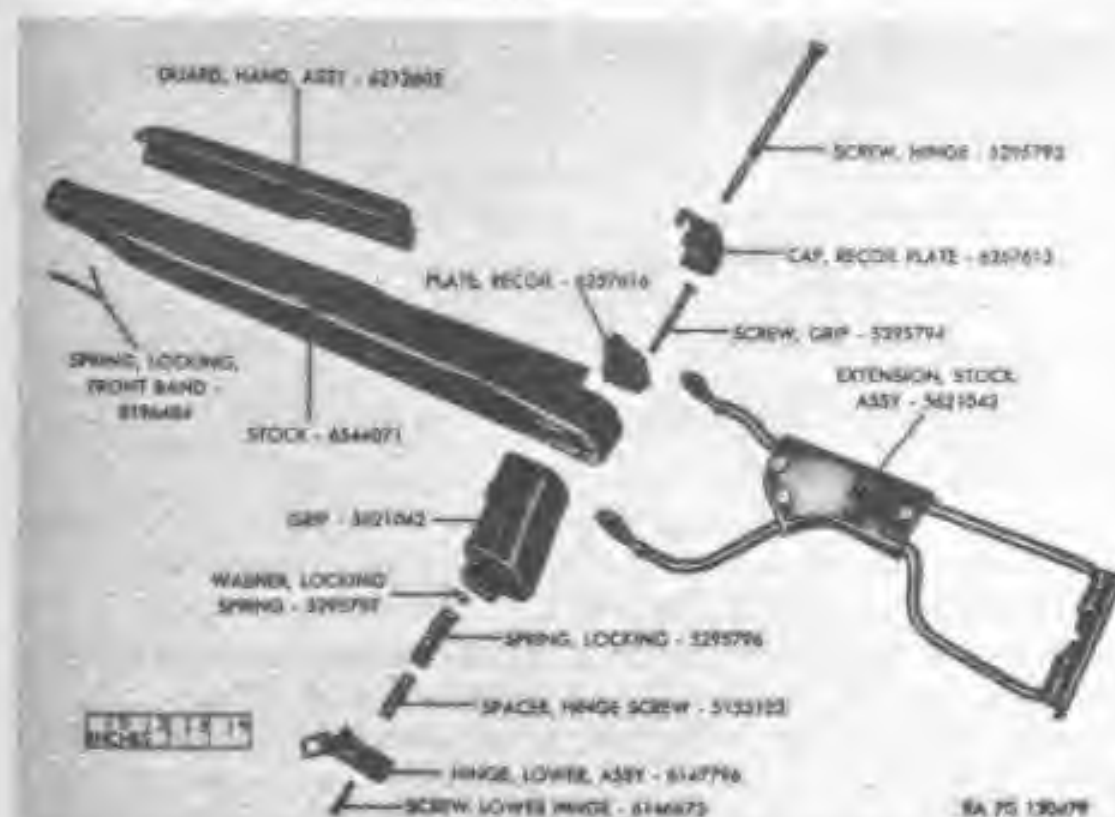

Figure 106. Stock assembly 6544072 and hand guard assembly 6212602 for carbine M1A1.
##### a. Stock Extension (fig. 106).
m. Inspect cheek rest plate and retaining plate for deformation and looseness with each other on the bars when assembled. Inspect rivets for looseness and protrusion of heads. Inspect cheek rest cover for scoring and cracking of leather. Cheek rest plate should be held tightly to bars by retaining plate and rivets, and leather cover, on the stock extension assembly (fig. 106), should be smooth, so it will not scrape face of operator.